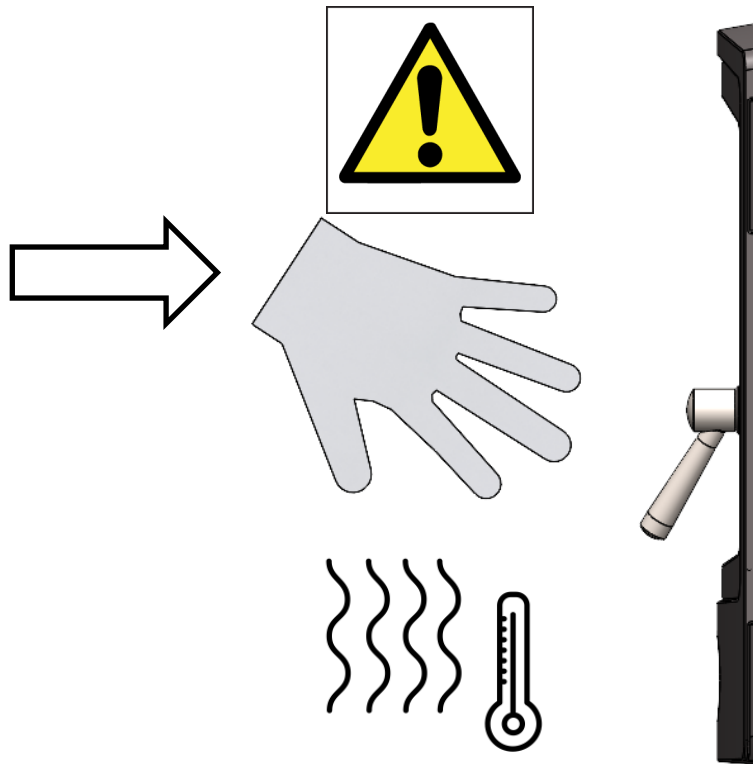

Fig. 21
- Care must be taken when opening and closing the fire door as any surrounding surfaces will be VERY HOT. See Fig. 21.